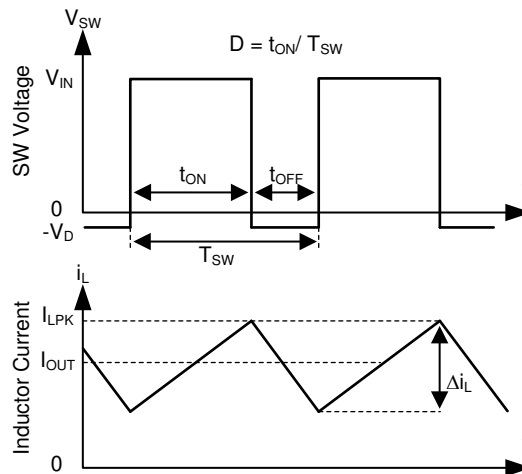

图 10-2. SW Node and Inductor Current Waveforms in Continuous Conduction Mode (CCM)
The TPS2586x-Q1 integrates a monolithic, synchronous, rectified, step-down, switch-mode converter with internal power MOSFETs and USB current-limit switches with charging ports auto-detection. The TPS2586x-Q1 offers a compact solution that achieves up to 5 A of continuous output current with excellent load and line regulation over a wide input supply range. The TPS2586x-Q1 supplies a regulated output voltage by turning on the high-side (HS) and low-side (LS) NMOS switches with controlled duty cycle. During high-side switch ON time, the SW pin voltage swings up to approximately V_{IN} . The inductor current, i_{L} , increases with linear slope $(V_{\text{IN}} - V_{\text{OUT}}) / L$. When the HS switch is turned off by the control logic, the LS switch is turned on after an anti-shoot-through dead time. Inductor current discharges through the LS switch with a slope of $-V_{\text{OUT}} / L$. The control parameter of a buck converter is defined as Duty Cycle $D = t_{\text{ON}} / T_{\text{SW}}$, where t_{ON} is the high-side switch ON time and T_{SW} is the switching period, shown in 图 10-2. The regulator control loop maintains a constant output voltage by adjusting the duty cycle D . In an ideal buck converter, where losses are ignored, D is proportional to the output voltage and inversely proportional to the input voltage: $D = V_{\text{OUT}} / V_{\text{IN}}$.